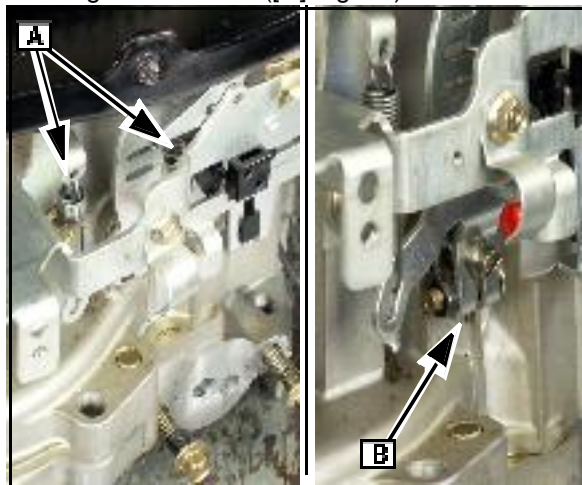

Fig. 13
1. Remove the links and springs from the governor lever ([A] Fig. 13).
2. Loosen governor lever screw and nut ([B] Fig. 13).